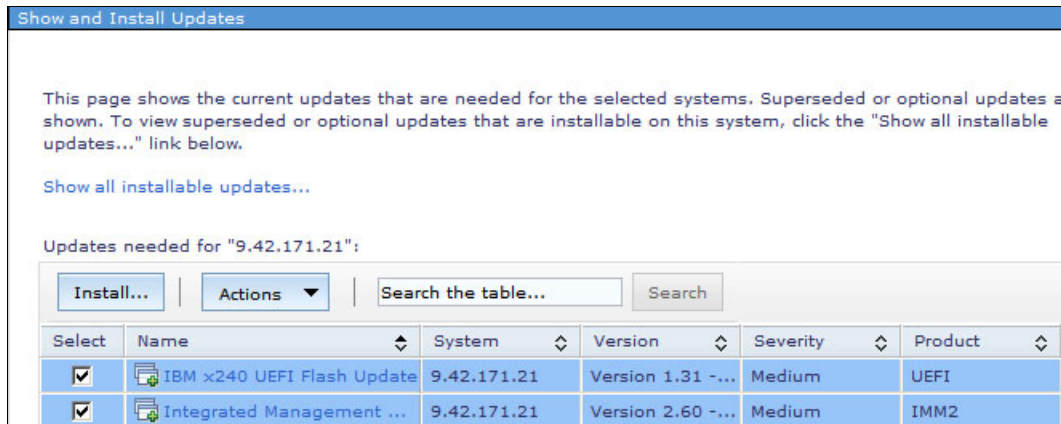

Figure 6-96 Show and Install Updates list
- Review the list of available updates as shown in Figure 6-96. The updates can be selected individually or all at one time, and deployed by clicking **Install**.
- Review the list of available updates as shown in Figure 6-96 on page 205. The updates can be selected individually or all at one time, and deployed by clicking **Install**.